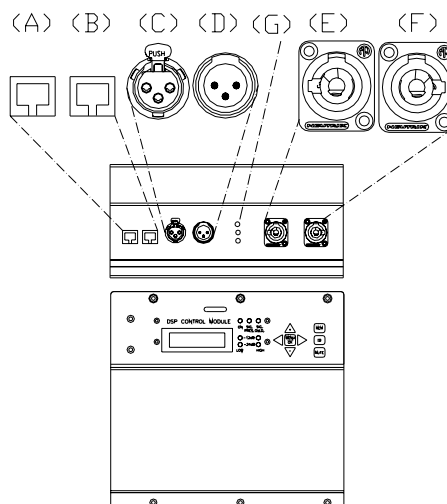
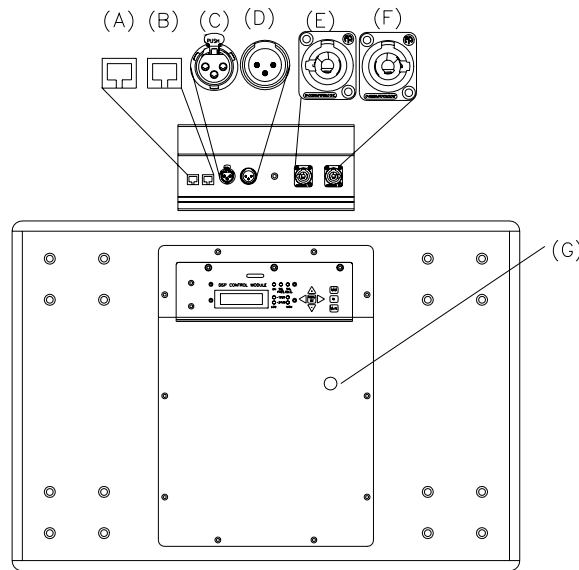

Fig.9. Connections panel for **MA-210/D7**
Fig.11. Connections panel for **MAW-215/D/2K**
If you are not using **MA-210/D7** in combination with low frequency reinforcement units, plug the output of mixer into the **MA-210/D7** Input. (Fig.9. **INPUT SIGNAL (C)**).
When the Overvoltage LED lights (in RED) (Fig.9. **LED OVERVOLTAGE (G)**, Fig.11. **LED OVERVOLTAGE (G)**), the cabinet stops working (or works intermittently) until the correct voltage values are reached again.